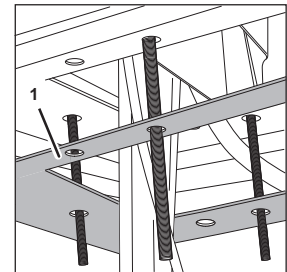

Fig. 6
5. Position the sealing plate (Fig. 6/1) against the supporting structure.